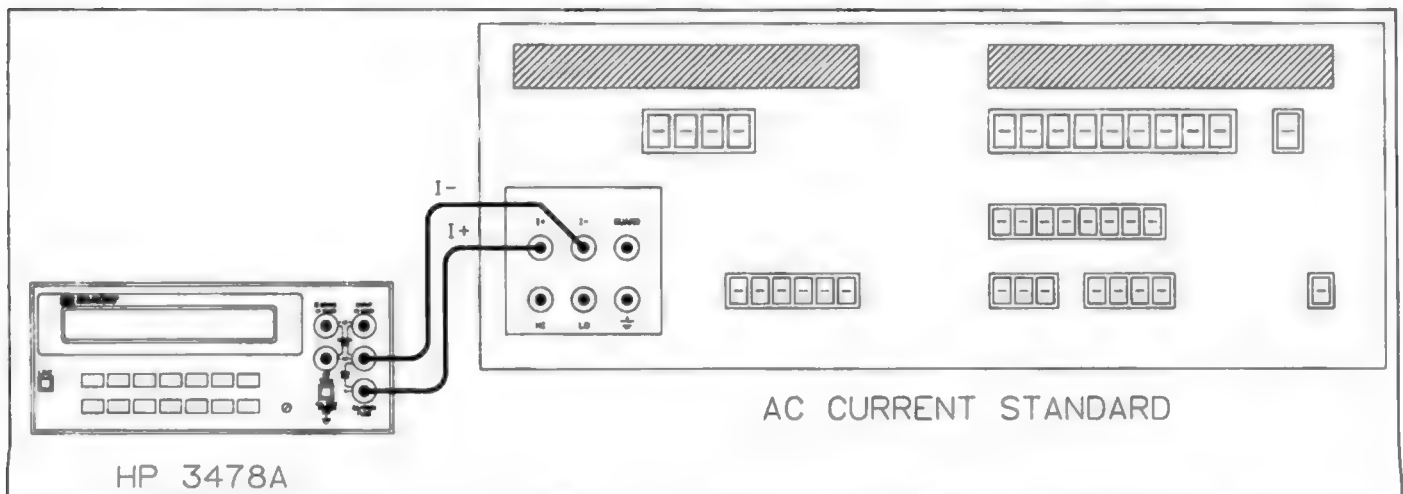

Figure 4-6. AC Current Test and Calibration Connections
c. (Step #3) Set the AC Current Standard for an output frequency of 5KHz. This output frequency will be used for all steps in this test. Connect the AC Current Standard to the 3478A front panel A and LO INPUT terminals as shown in Figure 4-6.